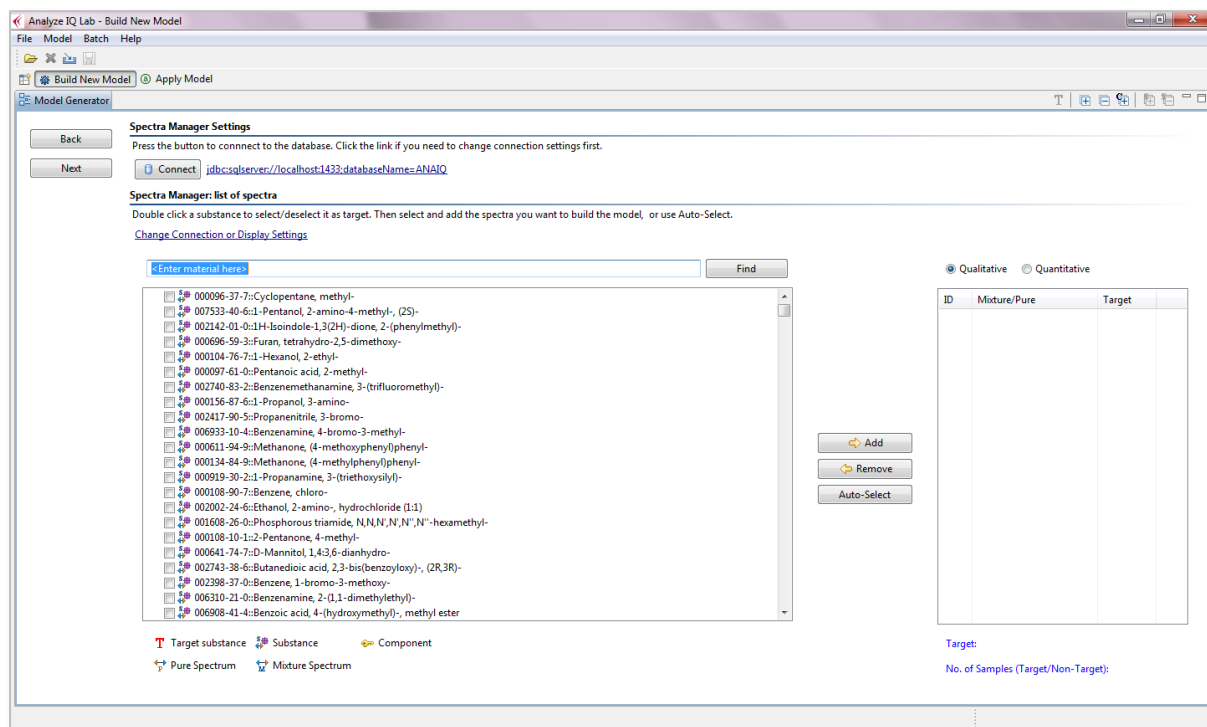

Figure 76: Building a quantification model: connect to database
2. Select *Next* and click on the *Connect* button (see Figure 76).